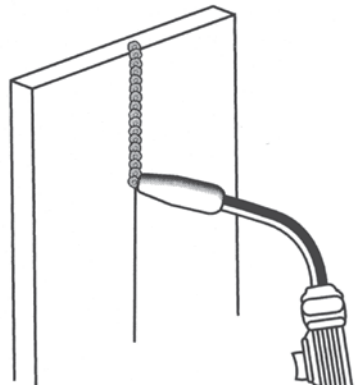

Figure 16. Vertical Position
3. The **VERTICAL POSITION** (Figure 16) is the next most difficult position. Pulling the torch from top to bottom may be easier for many people, but in some instances it can be difficult to prevent the puddle from running downward. Pushing the torch from bottom to top may provide better puddle control and allow slower rates of travel speed to achieve deeper penetration. When vertical welding, angle B (see **HOLDING THE TORCH** - p.16) is usually always kept at zero, but angle A will generally range from 45 to 60 degrees to provide better puddle control.